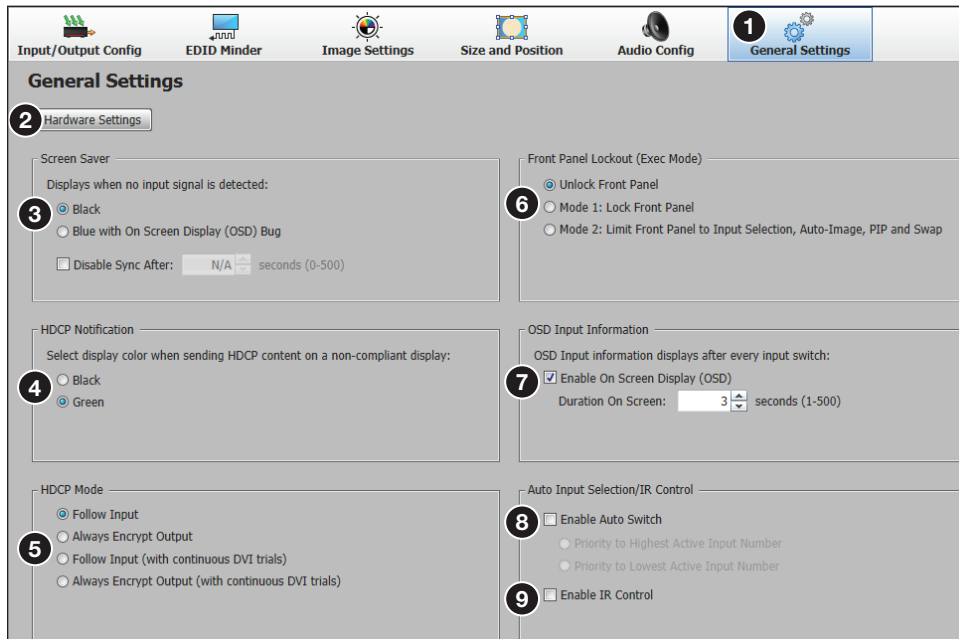

Figure 63. General Settings Page
Click the **General Settings** icon (see figure 63, ❶) on the global navigation bar to open the General Settings page.
To set the front panel lockout mode, click the applicable Front Panel Lockout (Exec Mode) radio button (see figure 63, ⑥ on the previous page) as desired.